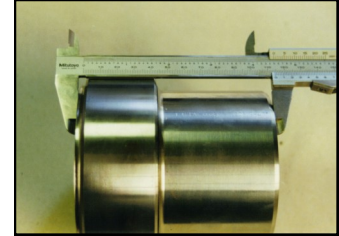

Fig 4.
Step 3. **Add** a 1/4 of a turn **anti-clockwise** to the distance measured in step 2. Set the spacer to this length see Fig 4.